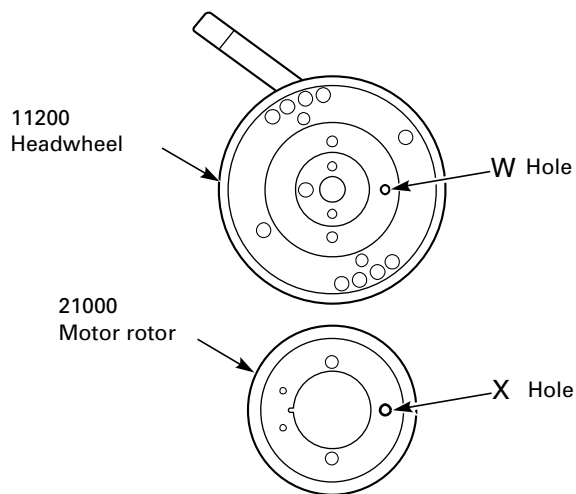

Fig. 8.39
- Undo the three screws (Pos. 10400) at the bottom of the mechanism and take the complete tape drum (Pos. 11000) out (Fig. 8.39).
**Note:** On reassembling the rotor (Pos. 21000) the phase must be adjusted to that of the headwheel. The hole (W) of the headwheel and the hole (X) of the rotor (Pos. 21000) must be on the same side as shown in Fig. 8.39. Tighten the screws (Pos. 30000) for attaching the rotor (Pos. 21000) and the stator (Pos. 22000) using a torque of 2.5 to 3.5 kg/cm.